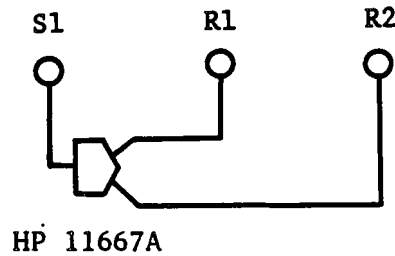

Figure 2-20. Magnitude Ratio/Phase Frequency Response Test Setup (2 of 3)
24. Disconnect the cable from **INPUT T1**, then connect it to **INPUT R2** as shown in Figure 2-20.